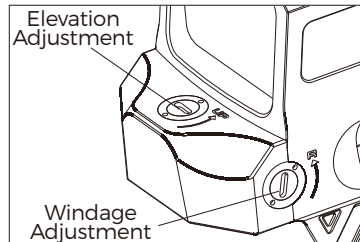

Fig 8
2. The elevation adjustment is located on top of the rear section of the housing and the windage adjustment is located on the right side of the housing. Windage and Elevation adjustments can be made using the included tool. (see Fig 8).